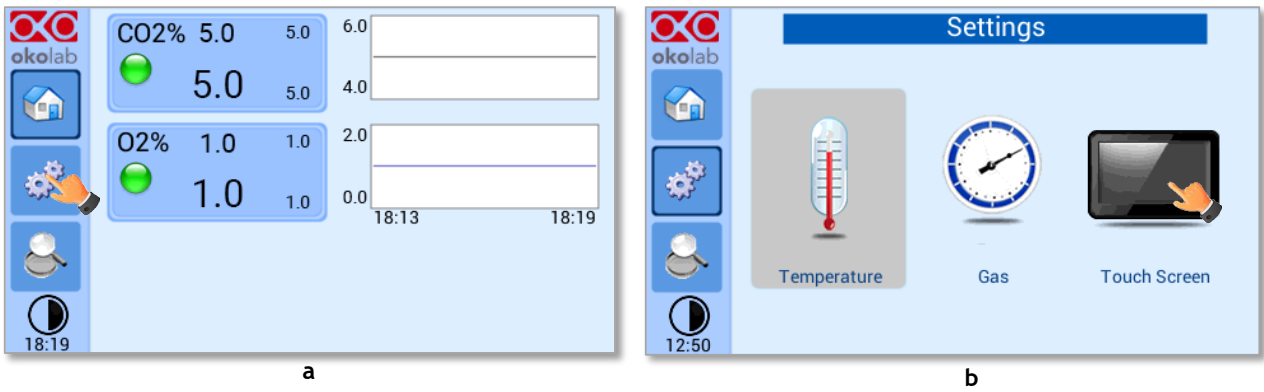

Figure 67 (a) How to enter the setting menu; (b) how to enter the Touch Screen menu.
1. Press on *Settings* icon  (see Figure 67 a) and press on *Touch screen* icon  on the window that opens next (see Figure 67 b).